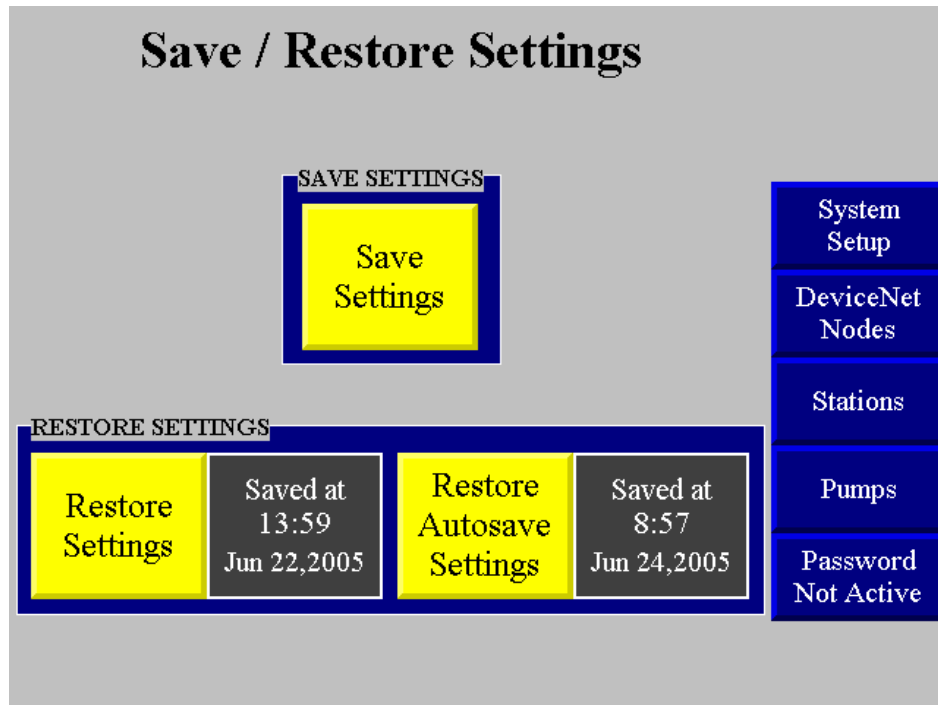

Fig 4
10. Go to the **Save / Restore** Screen (Fig 4) by pressing the Save / Restore button on the right side of the screen.